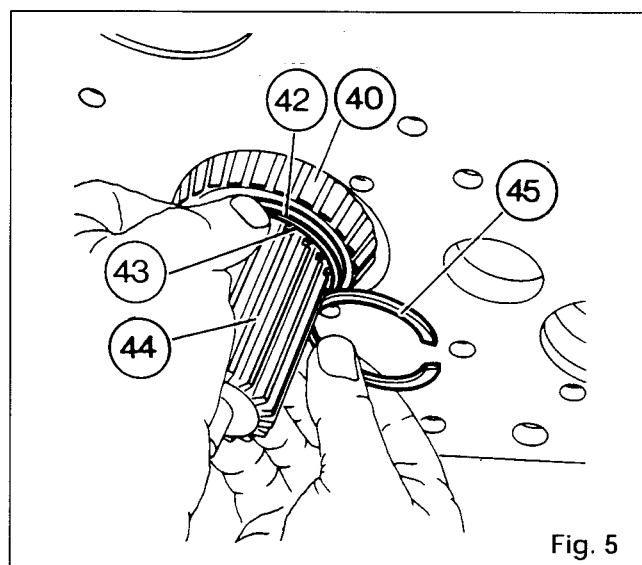

Fig. 5
21. Slide the cones (39) and (40) and hold them fully home against the shoulder of shaft (44) by pressing on them by hand. Fill the gap Y between the rear of the cone (40) and the groove for circlip (45) with shims (42) and packing shim (43). Choose a new circlip that provides a slightly tight fit in the groove (Fig. 5).